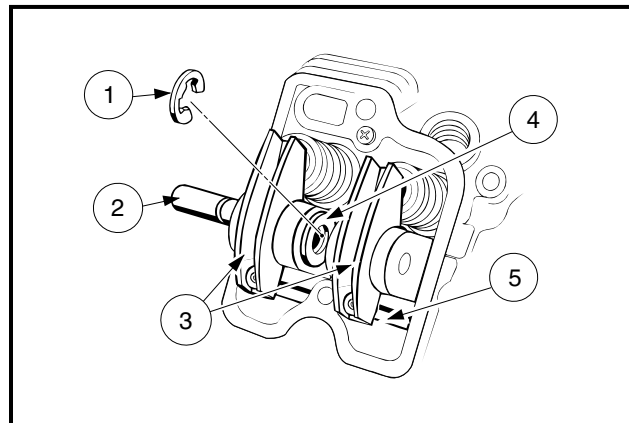

Figure 18-7 Remove Rocker Arms and Push Rods
**NOTE:** The FE400 engines are equipped with hydraulic lifters, which automatically eliminate all clearance in the valve train. Therefore, the rocker arms (3) and the push rods (5) do not need to be put back in their original positions (Figure 18-7, Page 18-7).
2. Remove the E-ring (1) and pull the rocker shaft (2) out of the cylinder head (Figure 18-7, Page 18-7).
3. Lift out the rocker arms (3), washer (4), and push rods (5).